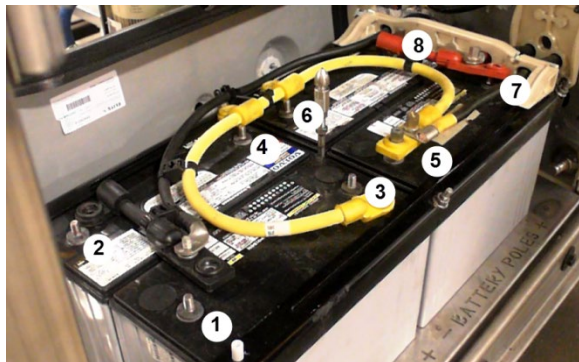

FIGURE 49: DISCONNECT 8 CABLE TERMINALS
3. Using a 9/16 hex socket box, disconnect the eight (8) battery cable terminals (FIGURE 49).